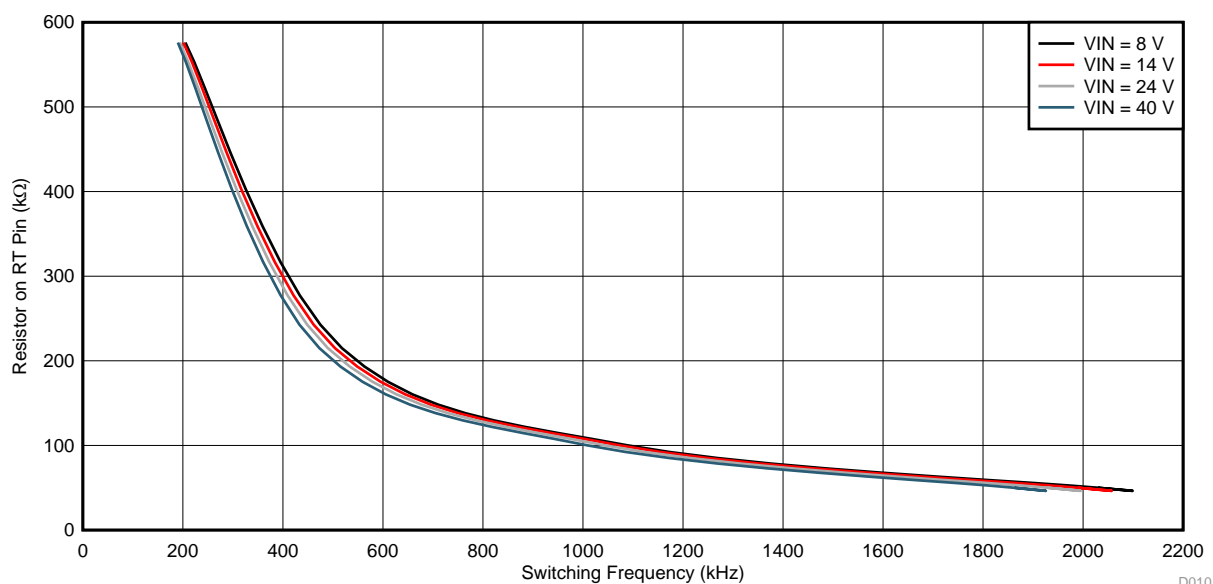

Figure 10. Switching Frequency vs Resistor Value
The oscillator frequency can be set by connecting an external resistor (R8 in Functional Block Diagram) to RT pin (pin 6). Figure 10 shows the relation between the resistor value (RT) and switching frequency (f_{sw}). The switching frequency can be set in the range 200 kHz to 2200 kHz. In addition, the switching frequency can be imposed externally by a clock signal (f_{ext}) at the SYNC pin.
Knowing the switching frequency, the value of resistor to be connected at RT pin can be calculated using the graph shown in Figure 10. Consider the oscillator tolerance ($\pm 10\%$) while selecting the external RT resistor. For example if $f_{\text{sw}} = 2.2$ MHz is required, select the RT resistor which corresponds to $f_{\text{sw}} = 2$ MHz in Figure 10 to allow $+10\%$ oscillator tolerance.